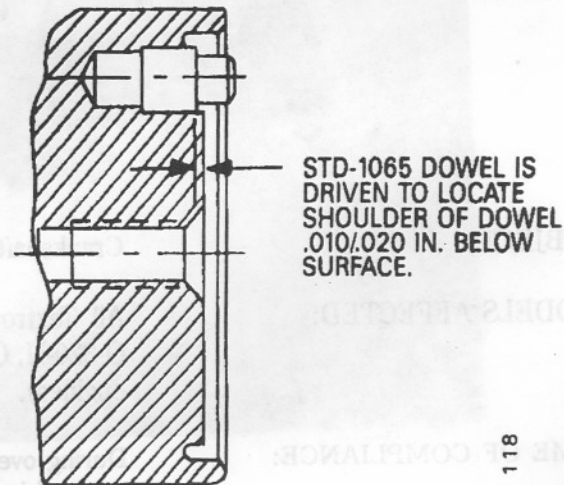

Figure 2. Section Thru End of Crankshaft Showing Driven Height of STD-1065 Dowel
with no indication of nicks or deformation. If it is out of round, it should be removed and replaced with a new one. Replacement instructions are in paragraph 4. If dowel condition is acceptable, insure that it is installed as shown in Figure 2 or 3.
5. Install a new dowel in the crankshaft as shown in Figures 2 and 3. Insure that the correct dowel is installed.